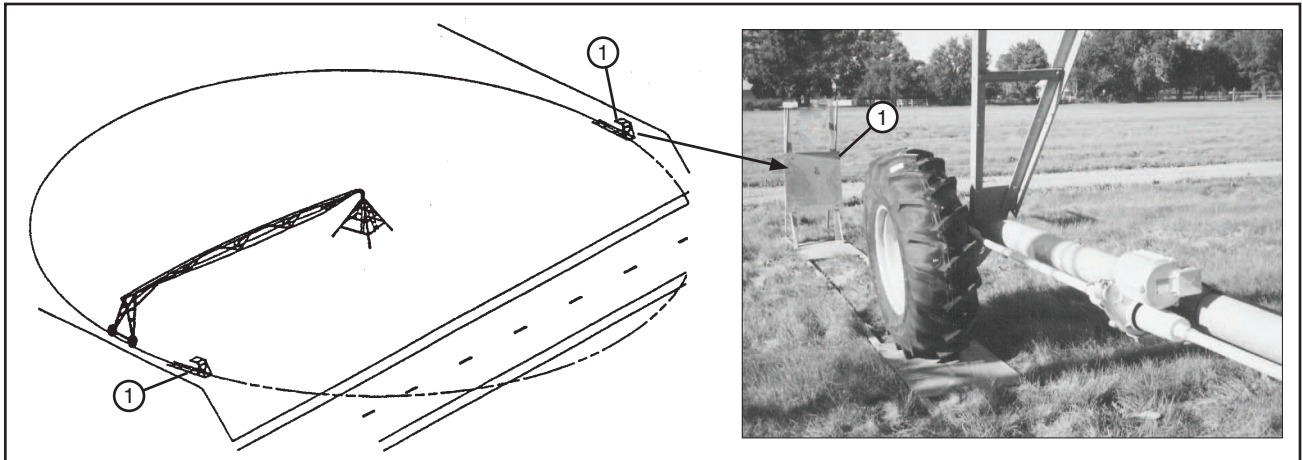

Figure 33-1 1. Physical barricade
- **PHYSICAL END OF FIELD STOP BARRICADES MUST BE INSTALLED ON ALL PART CIRCLE MACHINES. THE PHYSICAL BARRICADES SERVE AS A BACKUP IN CASE THE CIRCUITRY OR THE TRIP STRUCTURE SHOULD EVER FAIL. DELETION OF THE PHYSICAL BARRICADES CAN BE DONE BY THE CUSTOMER ONLY. SEE FIGURE 33-1.**